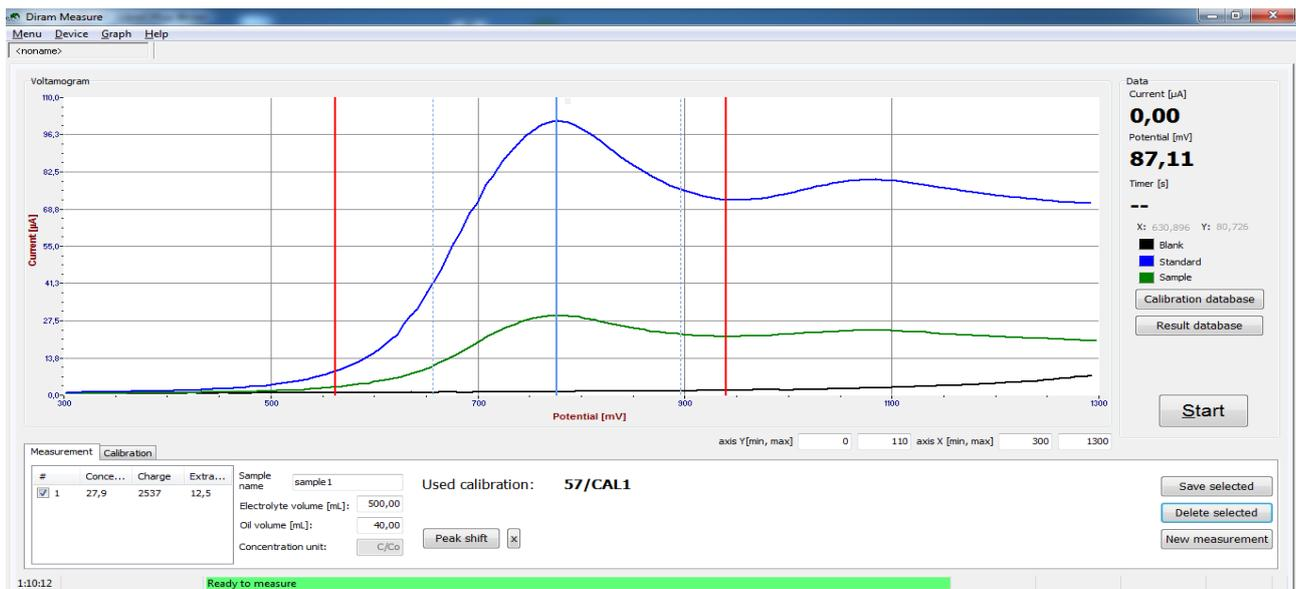

Figure 11: Adjustment of Sample potential.
21. Shift peak position clicking *Peak shift* and then on the peak maximum so that the peak maximum is the same as in Standard (**Fig. 11**).
22. The concentration is displayed (**Fig. 11**, 27.9 %).